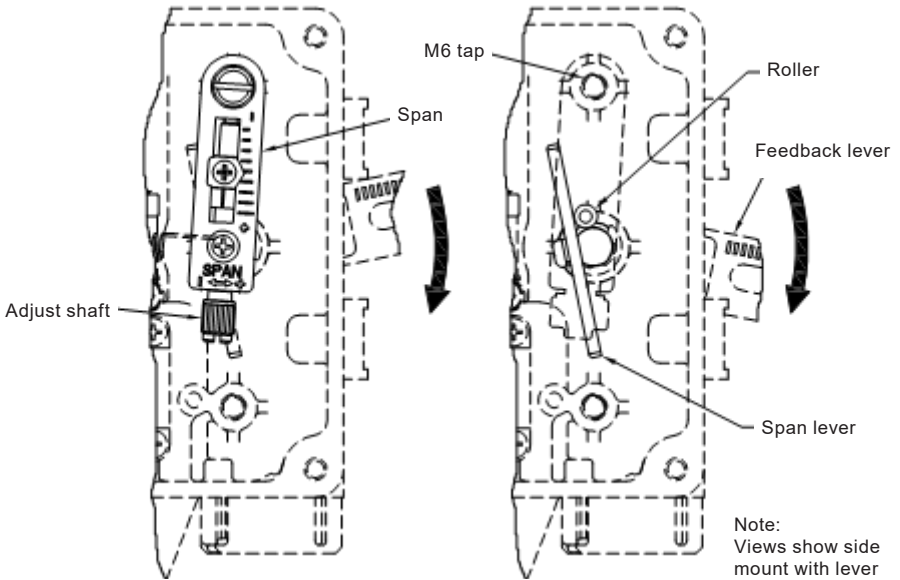

Fig. 15 Span Installation (side = DA, central = RA)
- 1) Side mount - If the actuator axis moves down when input signal is increased, assemble the "Span" to upper M6 Tap hole like the below Fig. 15.(DA)
- 2) Side mount - If the actuator axis moves up when input signal is increased, assemble the "Span" to lower M6 Tap hole like the below Fig. 15.(RA)